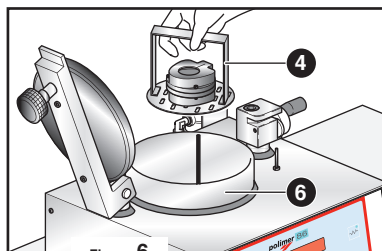

Figure 6
Fig. 6 : Put the basket (4) back in the polymerization chamber (6), making sure that the notch on the basket lines up with the vertical runner on the inner wall of the polymerization chamber.